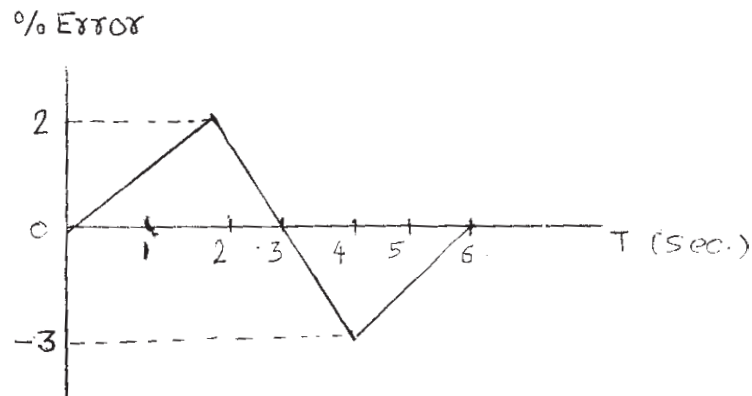

Fig.3
- Q9) a)** A PID controller has  $K_p = 2.0$ ,  $K_I = 2.2 \text{ s}^{-1}$ ,  $K_D = 2 \text{ s}$ . Controller output for zero error is 40%. Plot the controller output for the error shown in figure 3. [12]